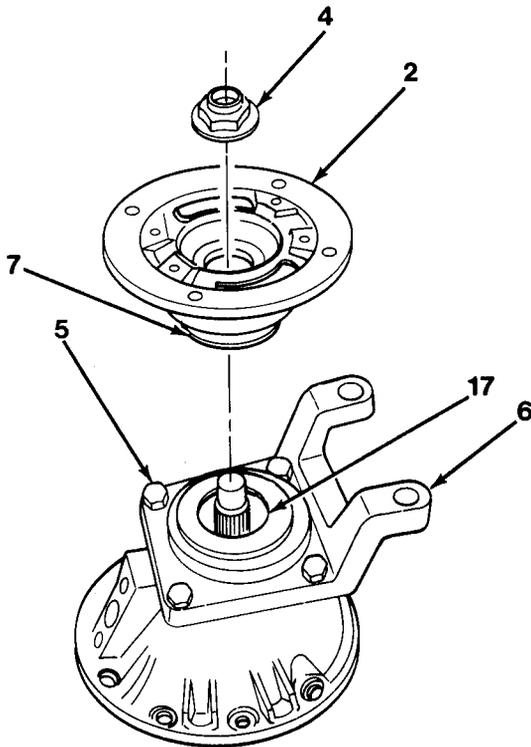

Figure 12-2
1. Remove pinion nut (4). Remove input yoke and disc (2) and dust shield (7, Figure 12-2).